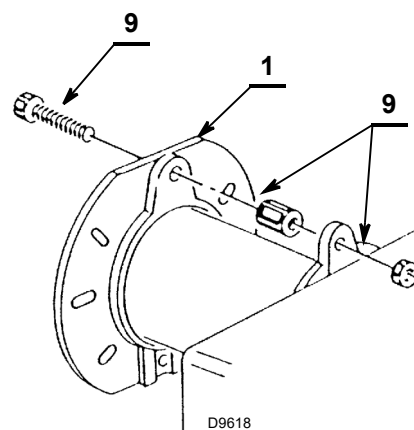

Fig. 9
- insert the screw and two nuts 9) on the flange 1)(Fig. 9).